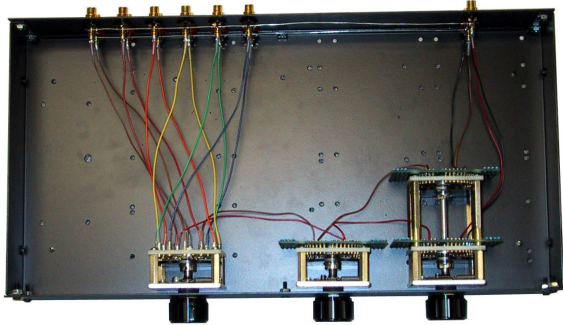

Figure 7. PR41 inside view.
Mount the three components on the front panel as shown in Figure 7.(1) the 6 position selector switch, (2) the balance control attenuator and (3) the volume control attenuator. Use the fiber washers and lock washers supplied with the switches. All washers should be installed on the inside, behind the front panel. Fasten the nuts on the switches securely. All three nuts on the switches should be tightened hard.